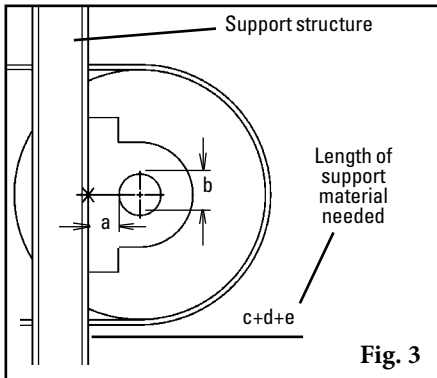

Fig. 3
5. **Cut chute opening.** Using the adjusted intersecting mark (“+”) established in Step 4, layout and cut the required opening 5" x 6" (125x150mm) on the chute (Fig. 3). If access hole is required, see Step 7.
- Measure from the back of the pulley shaft to the support structure (Fig. 3).